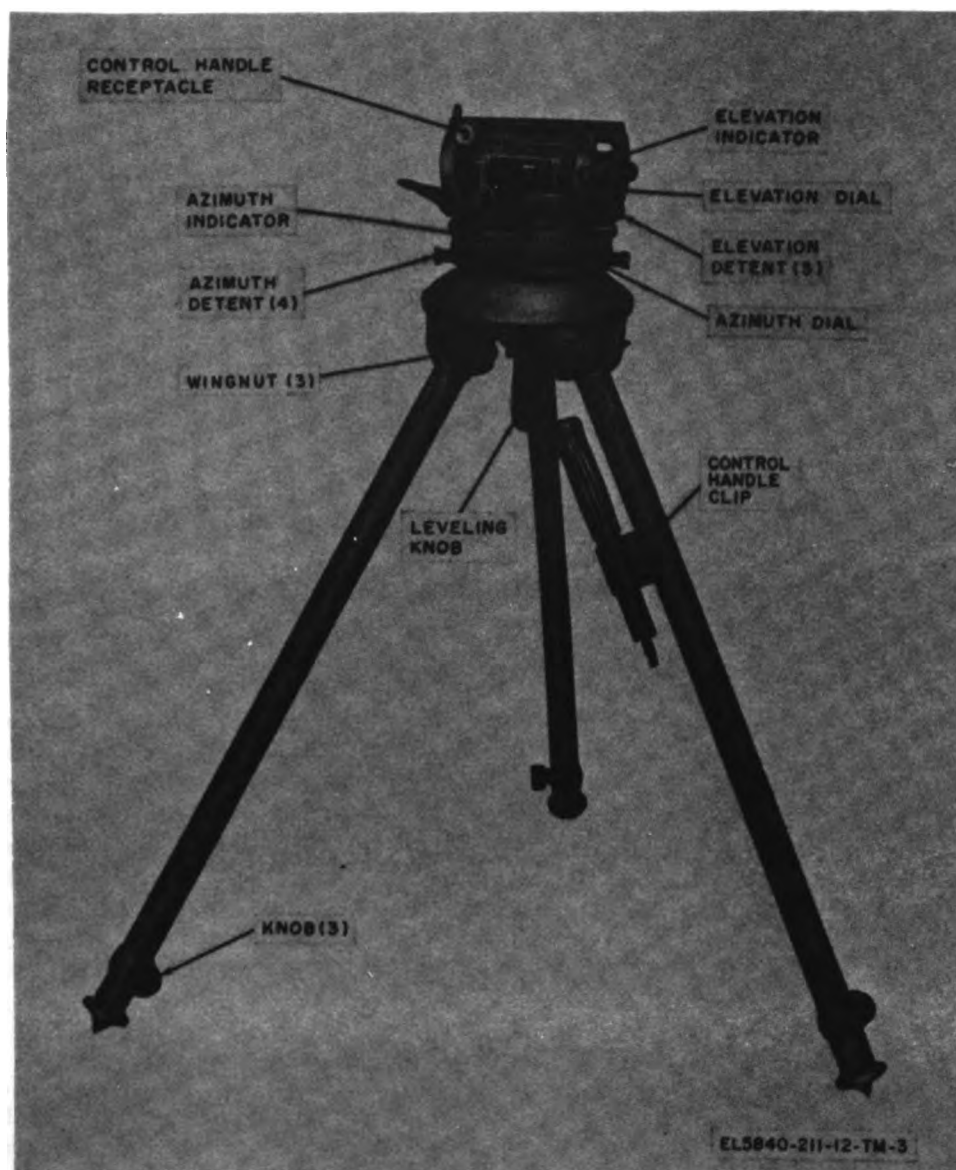

Figure 1-3. Tripod, Receiver-Transmitter MT-1946/PPS-4.
collapsible, metal tripod (fig. 1-3). The tripod can raise the receiver-transmitter between 1 and 5 feet above the ground. The tripod head is adjustable by means of a control handle to permit variation of the azimuth and elevation angle settings of the receiver-transmitter. The azimuth and elevation angles, in 100-mil steps, are indicated on the azimuth and elevation dials of the tripod head. The tripod head is also equipped with four azimuth and three elevation detents. These detents may be set at various azimuth and elevation headings to provide reference points when the radar set is searching an area.
a. *Tripod Installation* (fig. 1-3). Loosen the three wingnuts on the tripod legs. Extend the